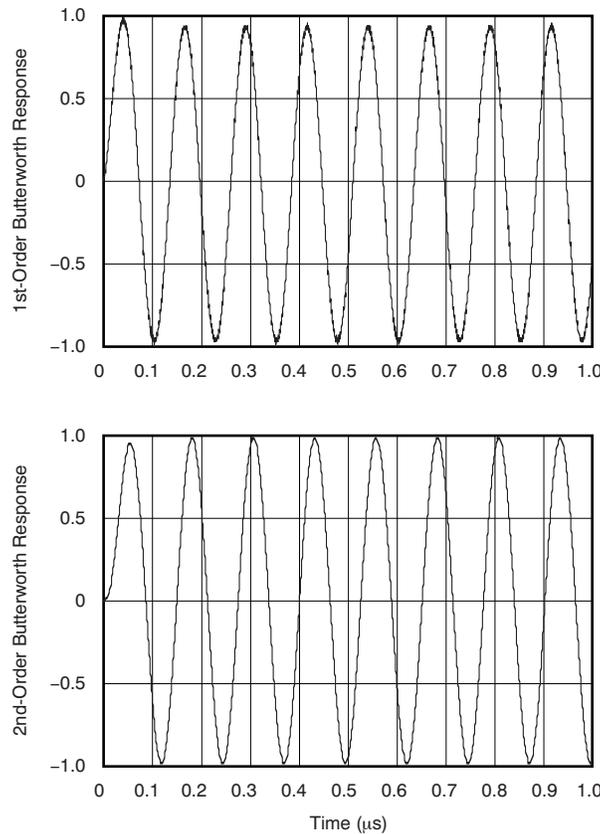

Figure 6. Filtered Modulator Signal
Figure 6 shows several cycles of the modulator signal presented in Section 4 when passed through a first- and second-order Butterworth (RC) filter with a cutoff (–3dB) frequency at 10kHz. The amount of filtering that occurs depends on the resolver coil impedance. Additional passive circuitry can be added to increase the filtering effect; however, increases will come at the expense of signal amplitude.